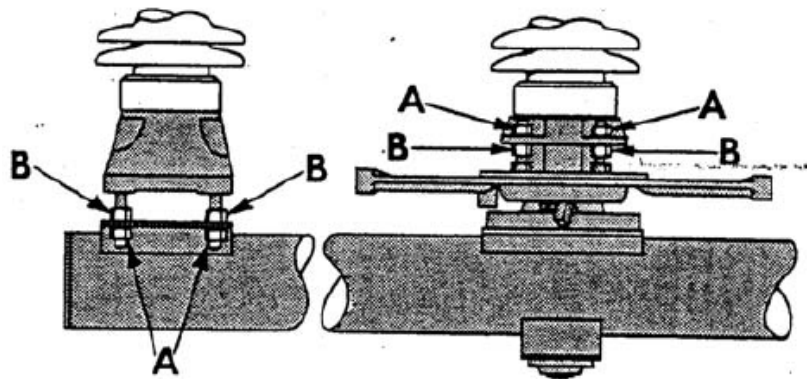

Figure 4: Jack Screw Adjustment
5. Use a plumb bob or level and true up the end insulators. It is important that they be perpendicular to the base in both planes. Use the jack screws to level these stacks. (Due to the overhang of the insulator skirts, it will be necessary to use a piece of scrap metal or wood to extend the plumb bob string beyond the skirts). See Figure 4 for jack screw adjustment procedure.